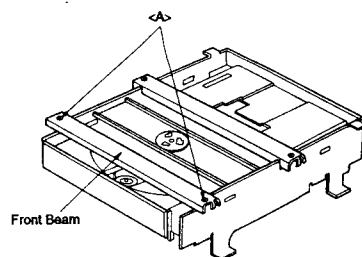

Figure 12
- (1) Remove two screws <A> (3×6 mm), then remove the Front Beam as shown in Figure 12.